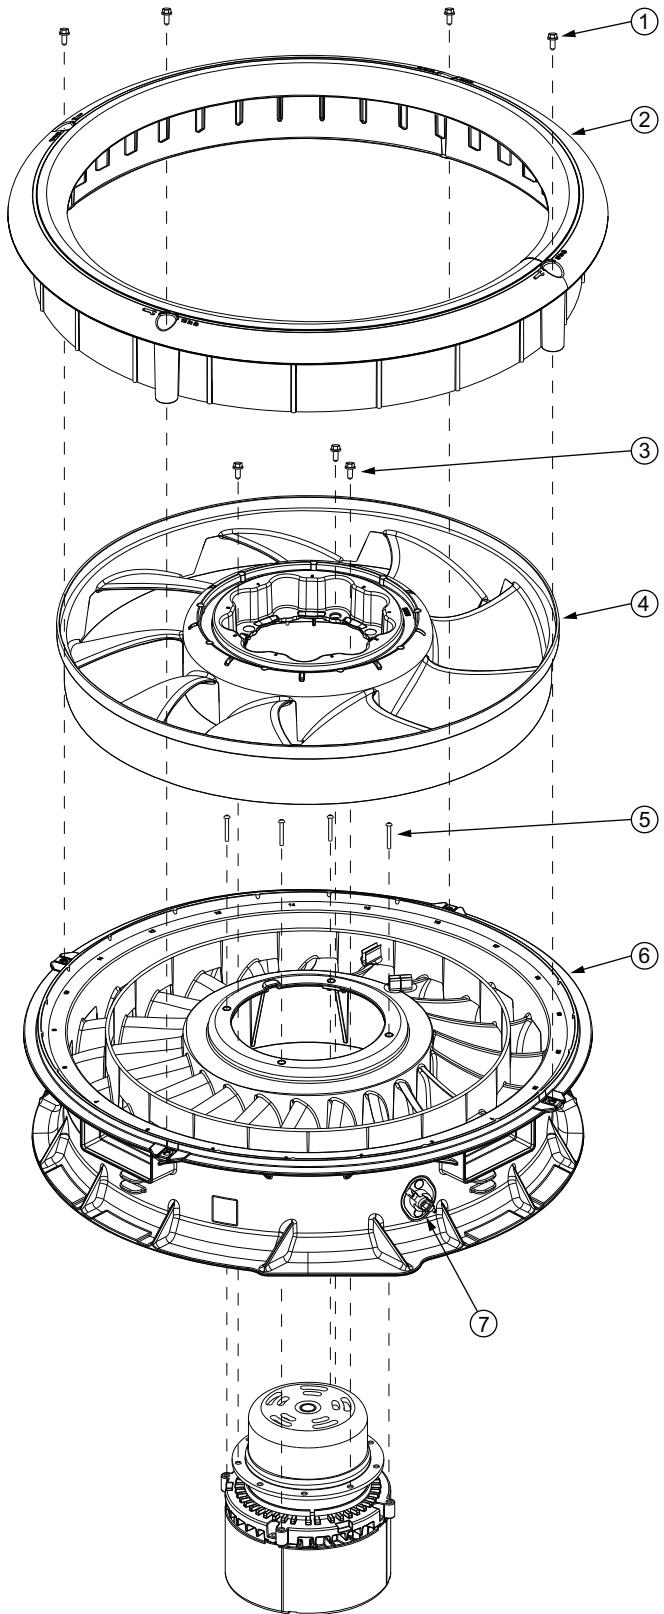
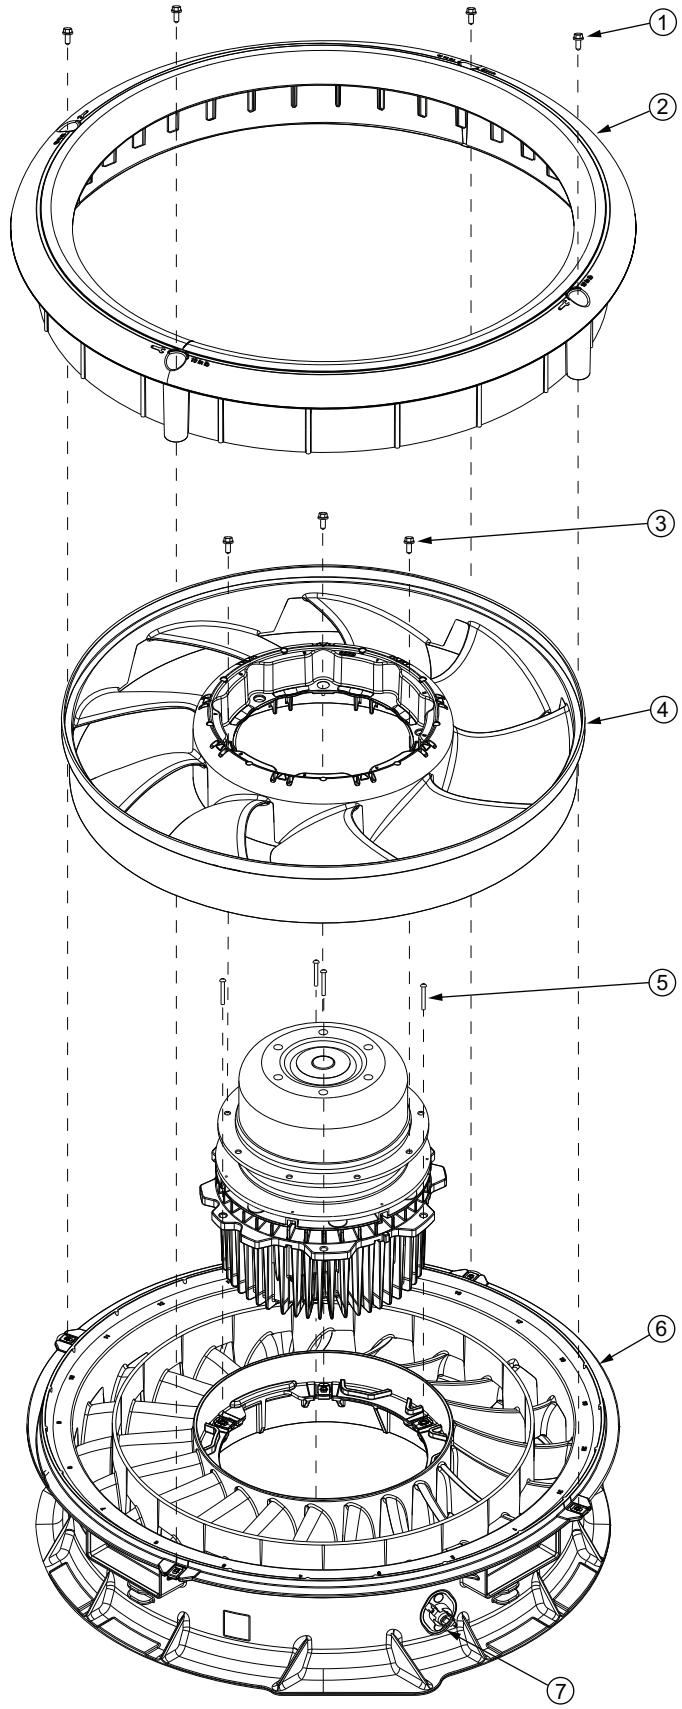

Fig. 27 — Fan Assembly for Units with 2.4 Hp Motor
Fig. 28 — Fan Assembly for Units with 3 Hp Motor
See Fig. 27 for 2.4 hp motor units; see Fig. 28 for 3 hp motor units.
1. See Fig. 27 for 2.4 hp motor units; see Fig. 28 for 3 hp motor units. Place motor on flat surface.